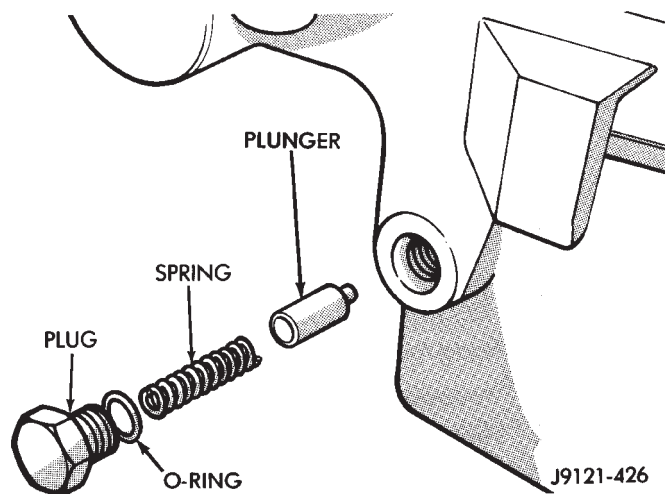

Fig. 21 Detent Component Removal
(4) Assemble governor drive and body. Be sure filter is properly seated and positioned in governor body before tightening attaching bolts.
(33) Remove shift detent plunger, spring and plug (Fig. 21). Remove O-ring from plug after removal.